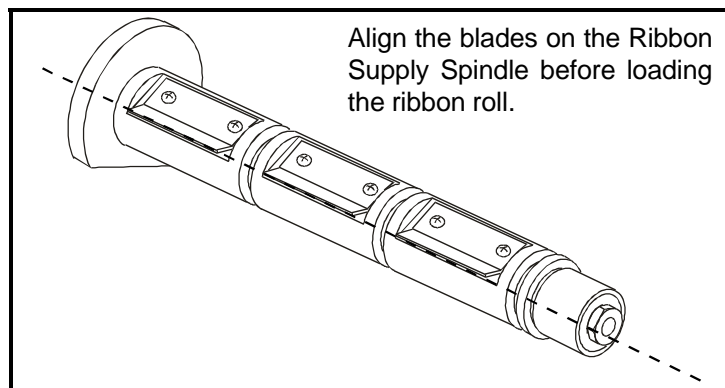

Figure 2.2 Ribbon Supply Spindle Alignment
1. Align the segments of the Ribbon Supply Spindle. See Figure 2.2. The Ribbon Supply Spindle is actually made up of either two or three segments that rotate independently. Each segment has a Spring Plate on it. It is important that these Spring Plates be in alignment prior to installing the ribbon roll on the spindle.